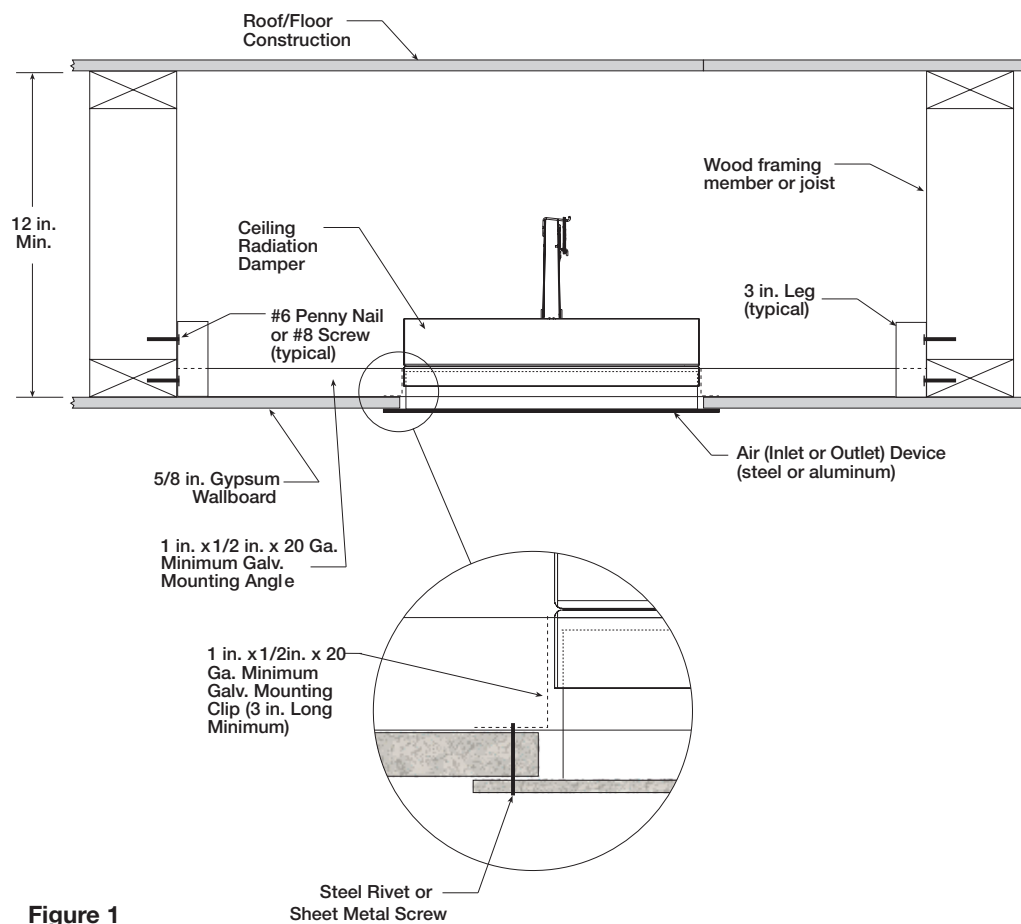
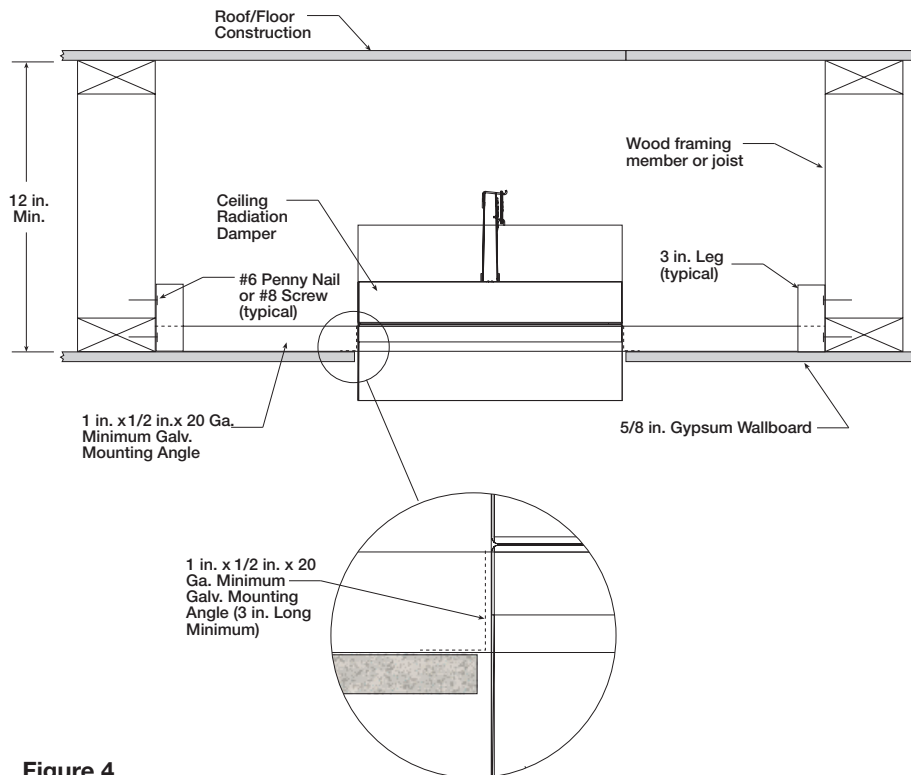

Figure 1
Figure 4
3. On the sides opposite the retaining angles, a three inch long (minimum) mounting angle is required. Make attachments as shown in Figure 1; make two attachments minimum per mounting angle for rectangular dampers and one attachment minimum per mounting angle for round dampers. Bottom leg of mounting angle rests on the ceiling material.
4. See **Figure 1** for further details.
- **Figure 4** shows the installation of a damper, with top and bottom extensions which extends three inches above and below the rated ceiling.
Models CRD-1, CRD-1LP, and CRD-2 may be installed as shown in **Figure 1** and **Figure 4**.